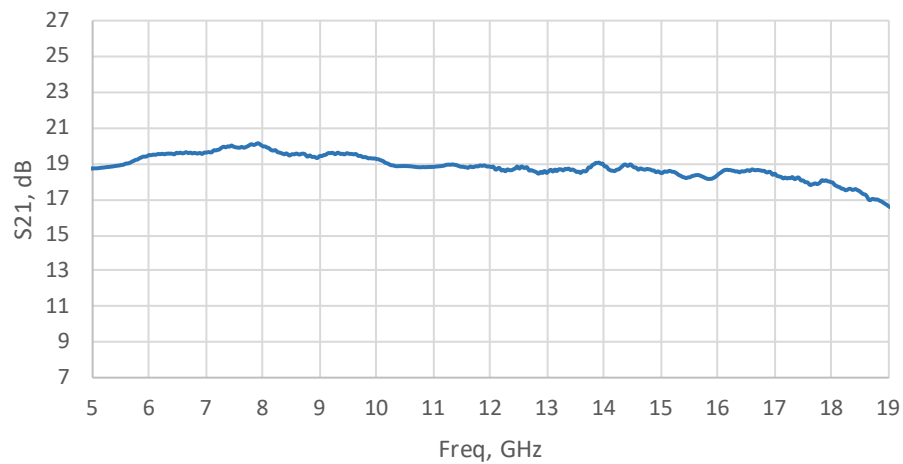

Figure 4-12. Typical A1A1 Pre-Amp Response
4. If the A1A2 Driver Amp is normal, check the A1A1 Pre-Amp. The gain of the A1A1 Pre-Amp should be approximately 18-20 dB with the gain control at maximum. The typical A1A1 Pre-Amp response is shown in Figure 4-12.